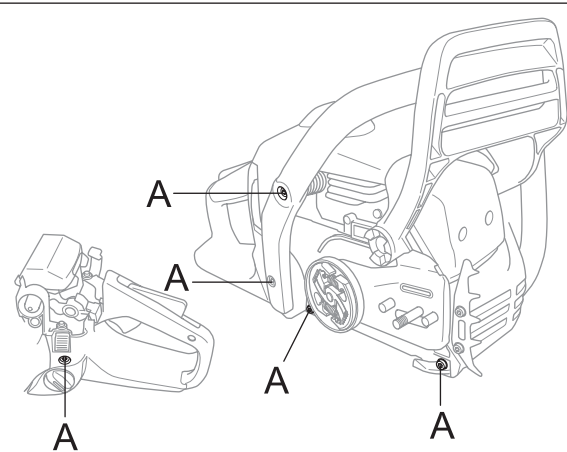

Fig 46
5. Remove the screws. (A). Loosen the handle (see figure 46).
3. Fit the handle with the screws (A). Tighten the screws with the torque set out in the service data (see figure 46).